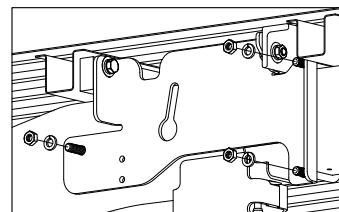

FIGURE C7: View from outside of Driver Side Frame.
- 4. Install U-Bolt.** Install the U-bolts from inside the frame. Place the U-bolt against the frame staying under the wiring harness and brake line. While making certain that nothing is between the frame and U-bolt, raise the U-bolt until the top leg is level with the top of the frame rail. Then turn the legs toward to the outside so that the U-bolt straddles the frame and the legs pass through the two holes in the sideplate. Attach the carriage bolt and U-bolt with 1/2" hardware as shown in figure C7. (Do not tighten hardware at this time.)